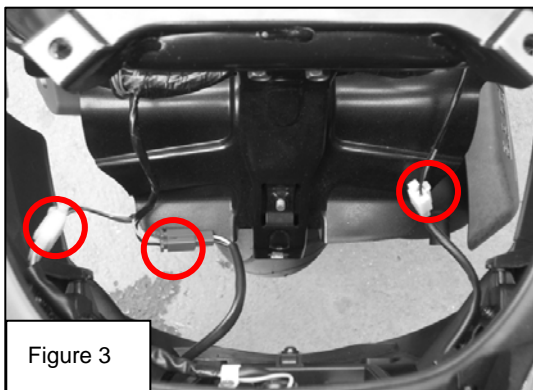

Figure 3
3. Remove the signal lamp socket- Figure 3.